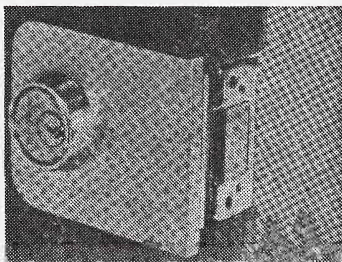

Fig. 18-34.
12. Turn the mounting screws finger tight, then give them approximately $\frac{1}{2}$ turn more (Fig. 18-34).